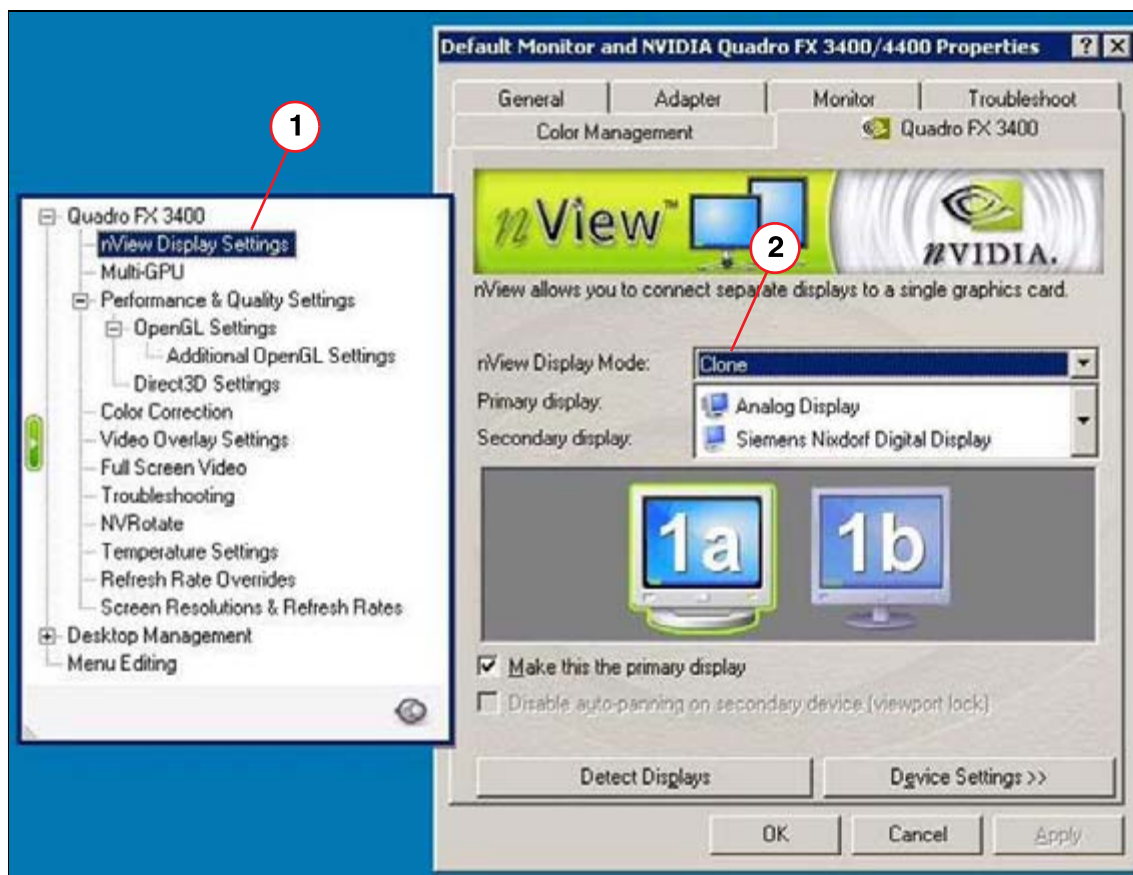

Fig. 56: Graphics card settings (example)
(Fig. 56 / p. 76) it isQuadro FX 3400)
- Select the Display Settings, in the presented example it is: nView Display Settings (1/ Fig. 56 / p. 76)
Then navigate to clone mode selection (in the example navigate to the select-box of nView Display Mode) (2/ Fig. 56 / p. 76)